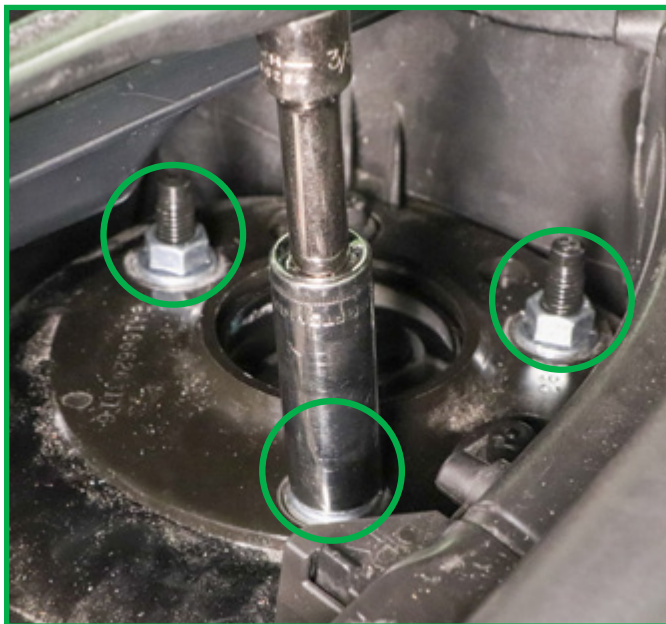

FIGURE 4
6. Remove the three (3) top mount nuts. (Figure 4)